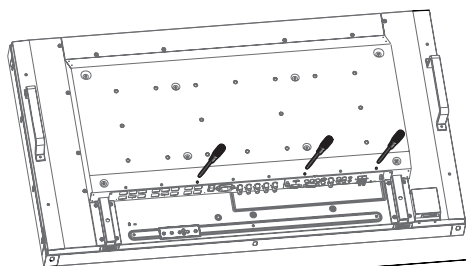

Figure 6
- Remove the three screws (Figure 6).